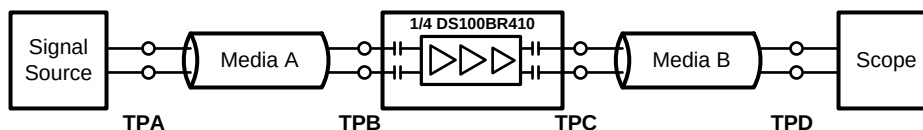

Figure 1. Test Setup Diagram
(3) Measured with clock-like {11111 00000} pattern.
(4) Measured with clock-like {11111 00000} pattern.
(5) The de-emphasis level of -3 dB, -6 dB, -9 dB are for $V_{OD} = 1.2$ Vp-p. At lower V_{OD} level, the de-emphasis levels are reduced.
(6) Random jitter contributed by the equalizer is defined as $\sqrt{J_{OUT}^2 - J_{IN}^2}$. J_{OUT} is the random jitter at equalizer outputs in ps-rms, see point C of Figure 1; J_{IN} is the random jitter at the input of the equalizer in ps-rms, see point B of Figure 1.
(7) Deterministic jitter is measured at the differential outputs (point C of Figure 1), minus the deterministic jitter before the test channel (point A of Figure 1). Random jitter is removed through the use of averaging or similar means.